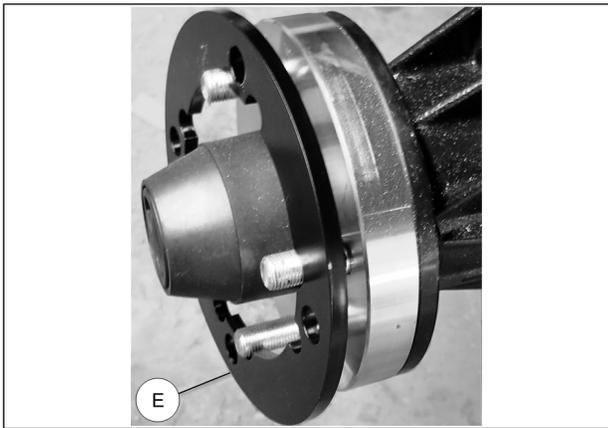

Fig. 21
7. Install wheel spacers (E) on rear hubs. See Fig. 21